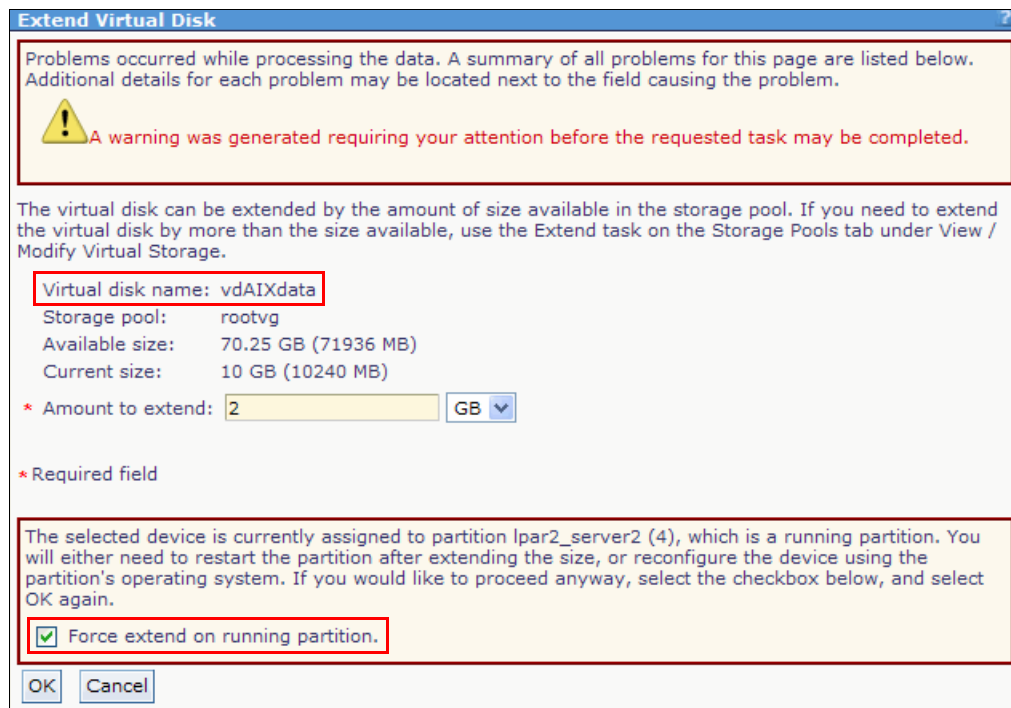

Figure 4-94 Forced expansion of a virtual disk
- Enter the disk space to be added and click **OK**. If the virtual disk is owned by a running partition, a warning message opens, as shown in Figure 4-94. You must then select the check box to force the expansion. The additional disk space is allocated to the virtual disk and it is available for the LPAR.